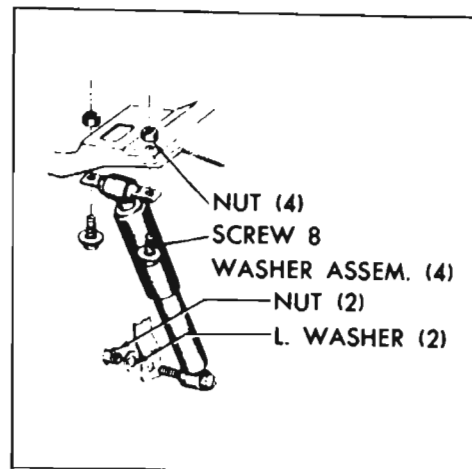

Figure 7-32—Rear Shock Absorber Installation
2. Disconnect shock at upper end. Disconnect shock at lower end and remove shock. See Figure 7-32.
2. Loosely attach shock to both mounting points. Torque upper bolts to 12-24 ft. lbs. (5-10 ft. lbs. Sportwagons) and the lower hex nut to 30-60 ft. lbs. See Figure 7-32.